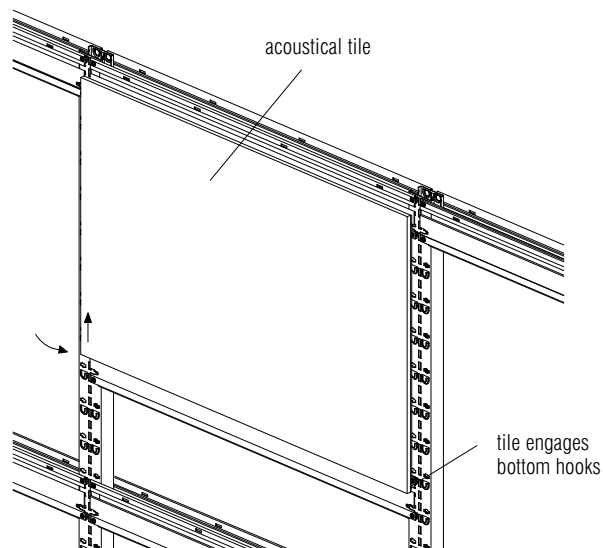

Figure 69
2. Hold the top of the tile against the frame and gently lift up on the bottom of the tile while pushing it in toward the frame to engage the bottom hooks. Let the tile slide down into position while continuing to support it against the frame. **Figure 69.**